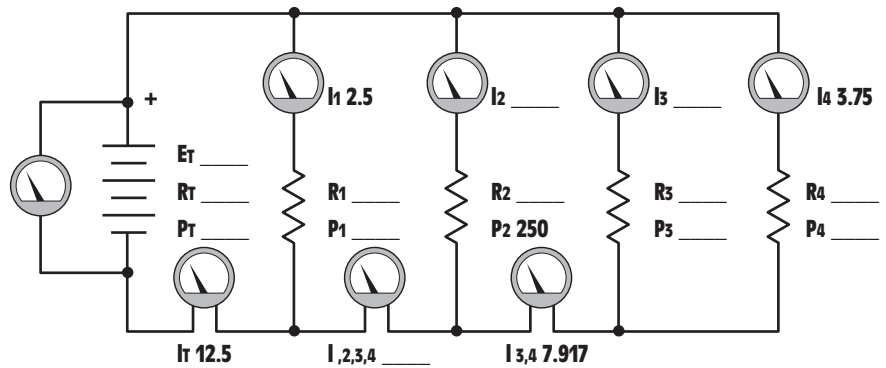

Figure 6-32 Practice Problem 7.
7. Find the missing values in the circuit shown in *Figure 6-32*.